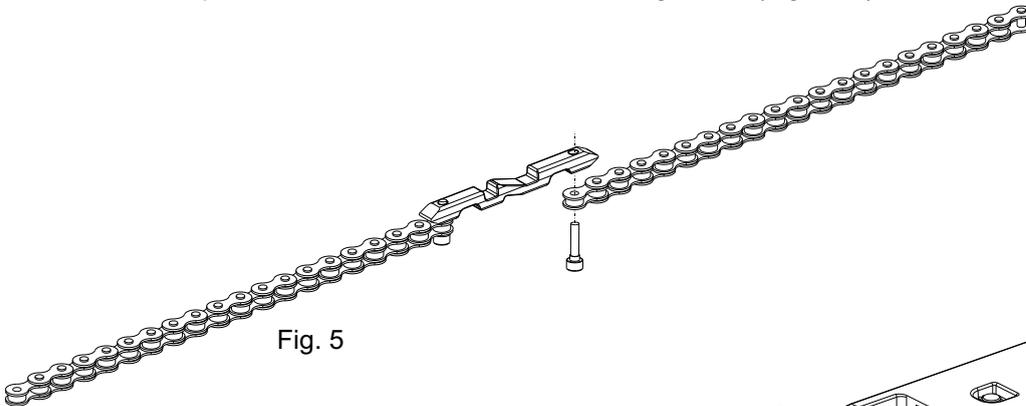

Fig. 5
- Connect the two ends of the chain using the connecting link and the two provided screws (Fig. 5).